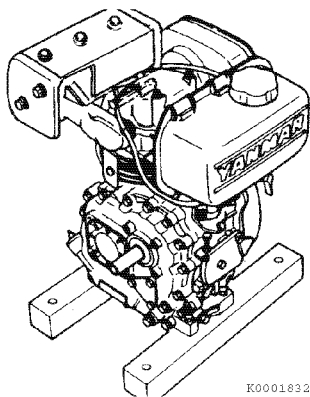

Figure 6-35
7. Remove the engine-mounted fuel tank (if equipped) (**Figure 6-35**).